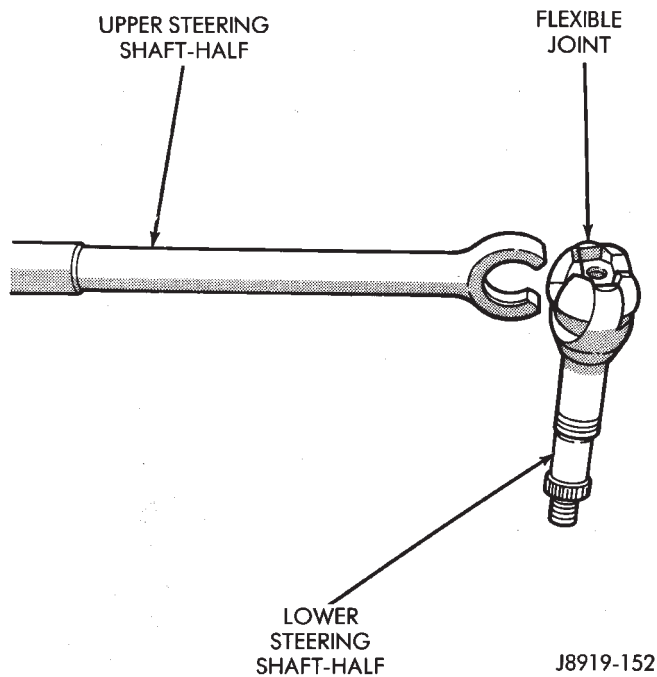

Fig. 16 Steering Shaft Separation
(37) Remove the steering shaft from the upper end of the steering column.
(38) Separate the steering shaft by folding it 90 degrees at the flexible joint. Detach the upper and the lower shaft halves (Fig. 16).